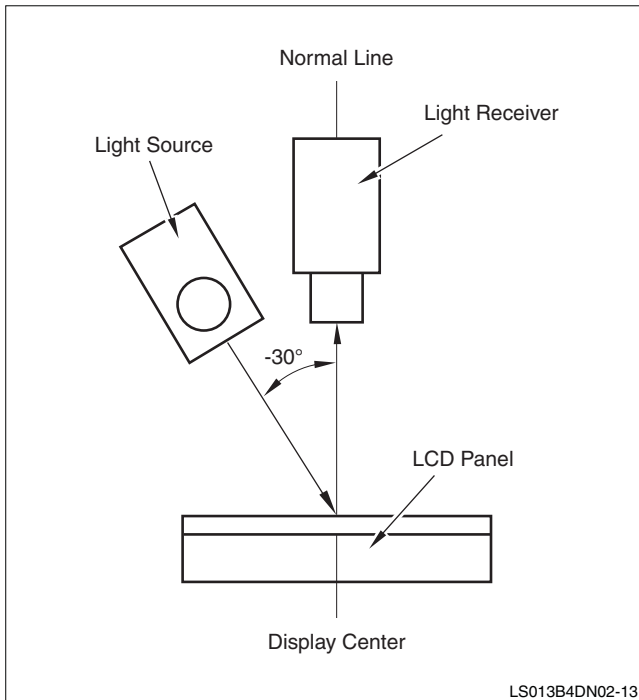
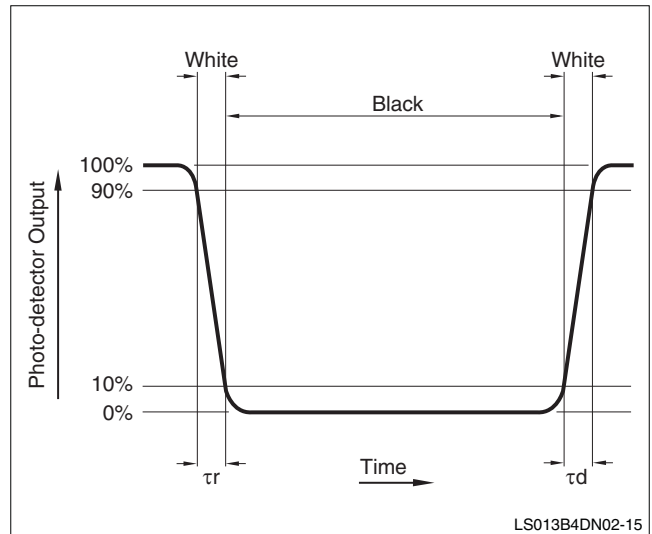

Figure 3. Setup for Response Time
Figure 4. Response Time
- Response Time is measured by the change interval in an optical receiver when the test panel's signal is transitioned from white to black to white. See Figure 3 for the measurement setup and Figure 4 for the output waveshape.